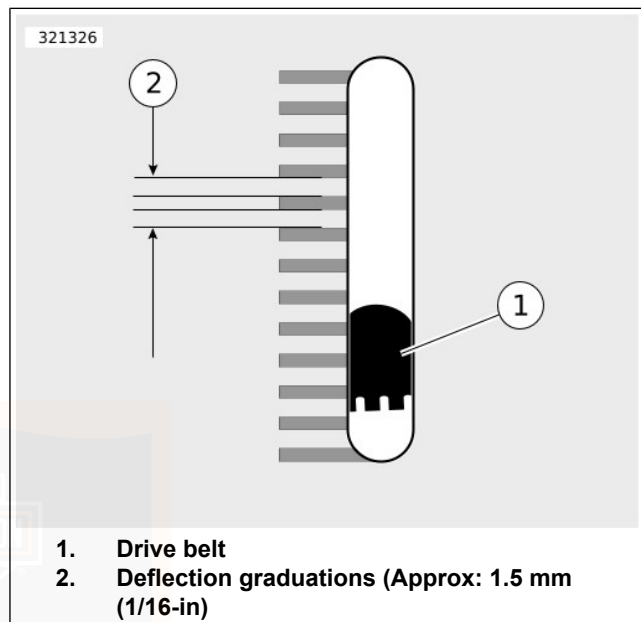

Figure 100. Belt Deflection Window
- a. Slide O-ring (4) to zero mark (3).
- b. **Models equipped with belt deflection window:** Fit belt cradle (2) against bottom of drive belt in line with belt deflection window.
- c. **All other models:** Fit belt cradle (2) against bottom of drive belt halfway between drive pulleys.
- d. Press upward on knob (6) until O-ring slides down to 4.54 kg (10 lb) mark (5) and hold steady.
- a. **Models equipped with belt deflection window:** See Figure 100. Measure belt deflection as viewed through belt deflection viewing window while holding gauge steady. Each deflection graduation is approximately 1.6 mm (1/16 in)